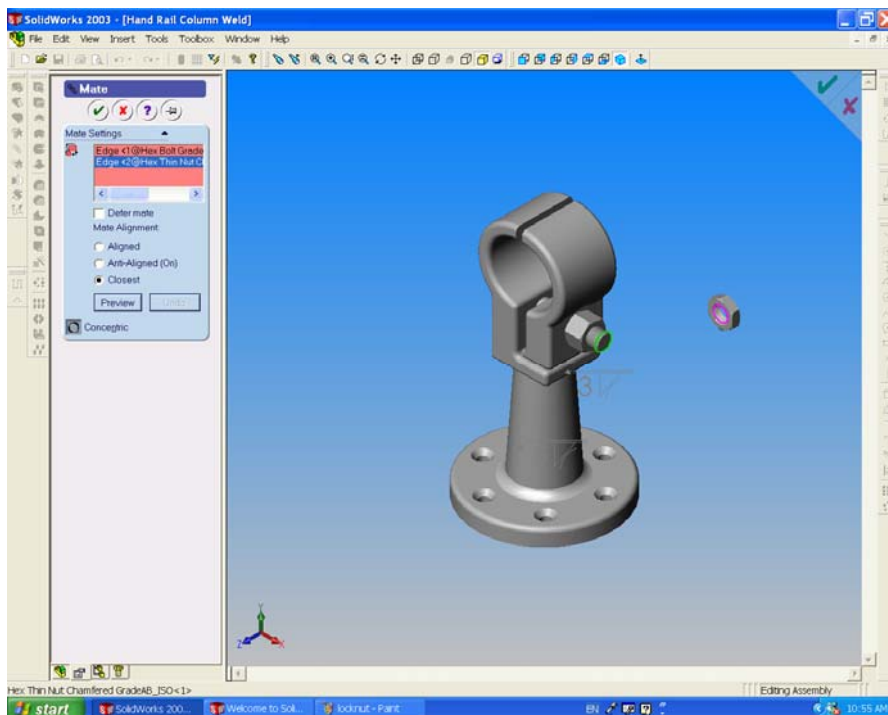

Figure 9
12. Mate the locknut coincident to the end face of the Standard Nut and concentric with the bolt. See Figures 9, 10 & 11.